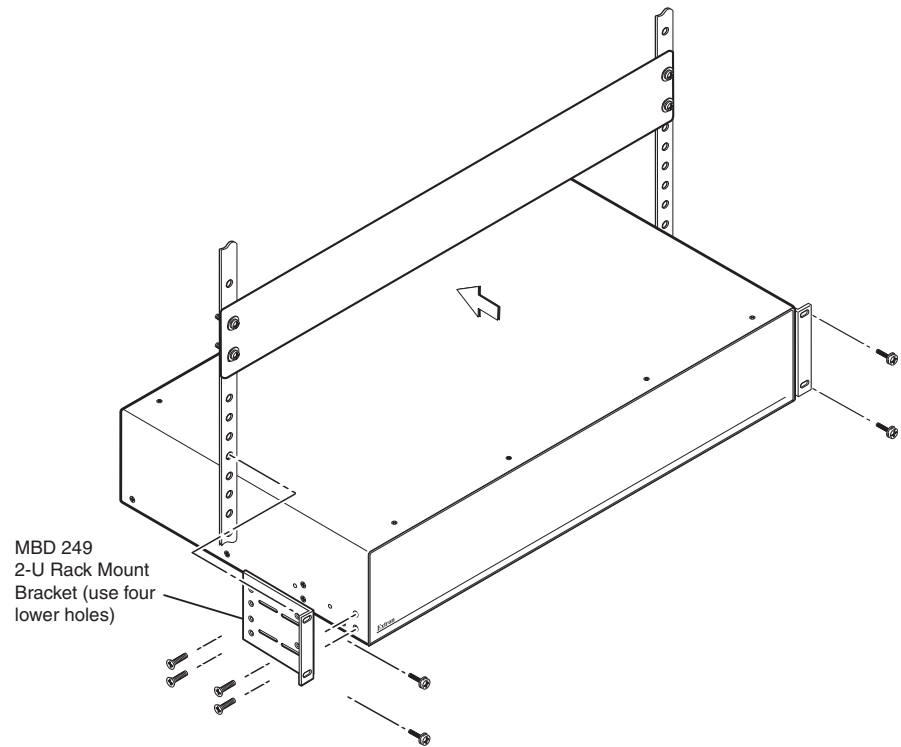

Figure 2-1 — Mounting the seamless switcher
The following Underwriters Laboratories (UL) requirements pertain to the installation of the ISS 506 into a rack (figure 2-1).
1. Attach the included MBD 249 rack/through-desk mounting brackets (part #70-155-01) to the unit using eight machine screws supplied with the mounting kit (figure 2-1). Use the lower screw holes in the brackets.